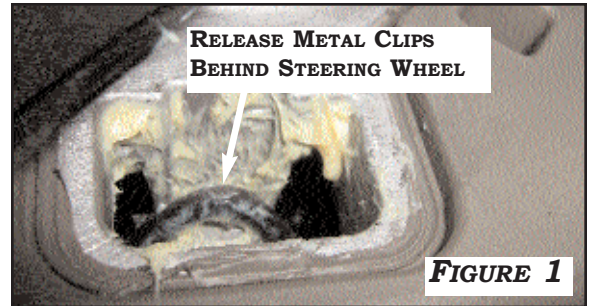

FIGURE 1
2. REMOVE STEERING COLUMN SHROUD. REMOVE AIRBAG BY USING FLAT HEAD SCREWDRIVER TO RELEASE (3) METAL CLIPS AS SHOWN IN **FIGURES 1,2.**